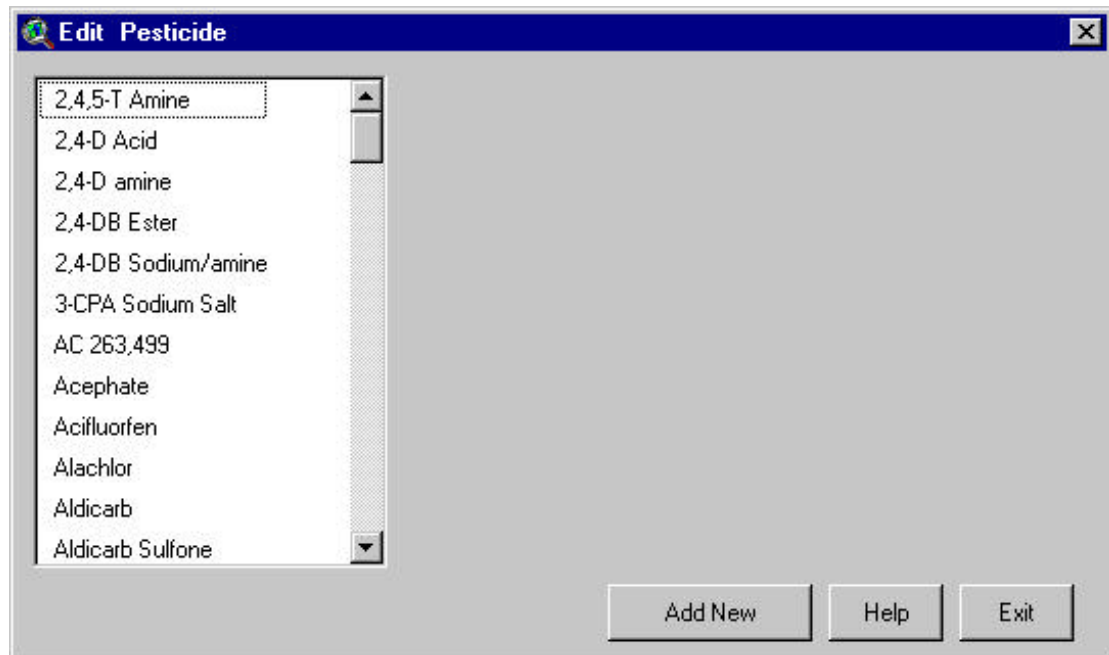

Figure 14.52
2. The Pesticide database dialog box will be displayed (Figure 14.52).